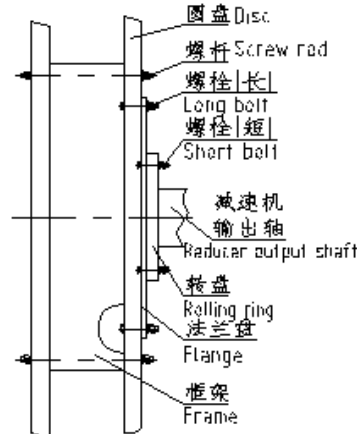

Fig. 4-70 Coil disc
- ① Coil disc installation shows as Fig. 4-70. Use 12 sets of M10×260 (1 bolt, 1 nut, 1 washer, 1 spring washer) bolt rod to connect the frame and two round disc. Use 12 sets of M10×55 (1 bolt, 1 nut, 1 washer, 1 spring washer) bolt to connect flange disc and round disc.